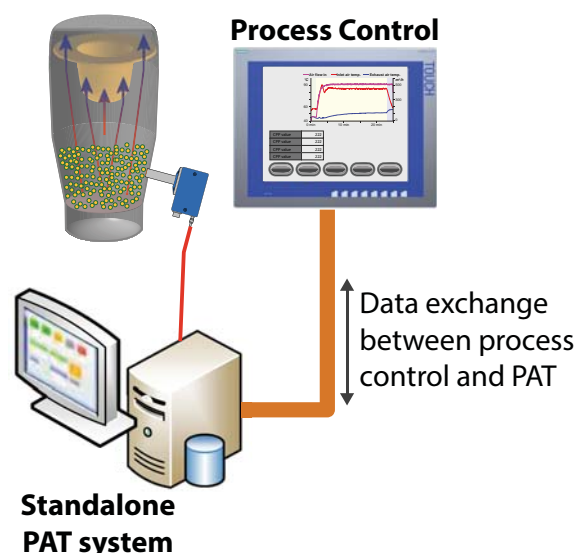

Figure 4: Standalone PAT system with data integration
2. A more advanced solution is to establish a data connection between the standalone PAT setup and the process control system as shown in **Figure 4**. In this scenario, the CQA is provided digitally to the control system and used to terminate the process. Typically, this also includes merging audit trail and reporting.